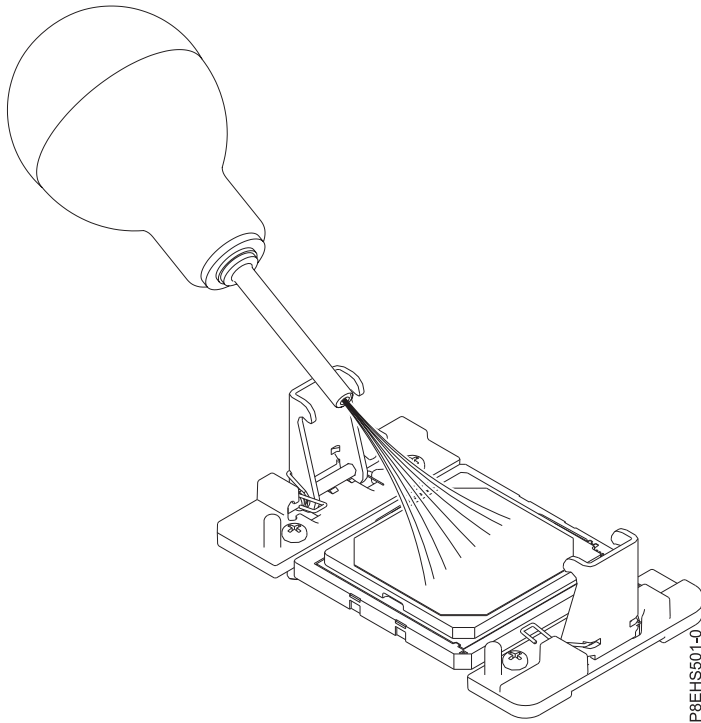

Figure 71. Removing dust and debris from the system processor module area
- a. If dust or debris is present, use the supplied air pump (part number 45D2645) to clean the system processor module area. Blow small bursts of air from the center toward the sides of the system processor module as shown in Figure 71 on page 72. If your air pump is not assembled as shown in Figure 71 on page 72, fasten the tip onto the bulb.